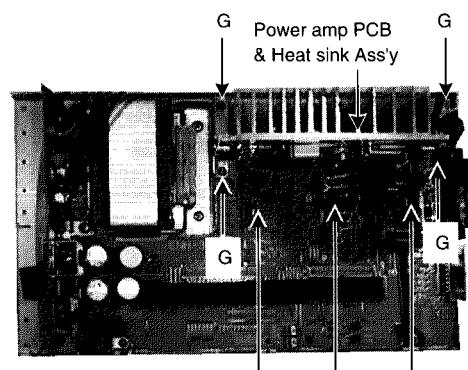

Fig.5
1. Remove 4 screws(G)fastening the Bracket of Heat sink (Fig.5).